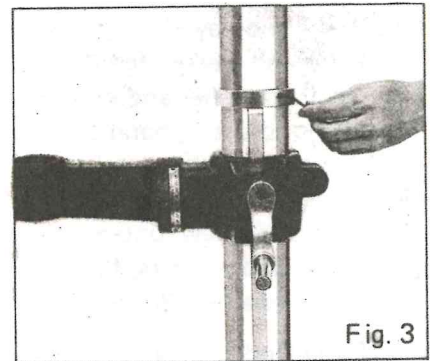

Fig. 3
- 2-3 Install collar and tighten firmly. Fig. 3